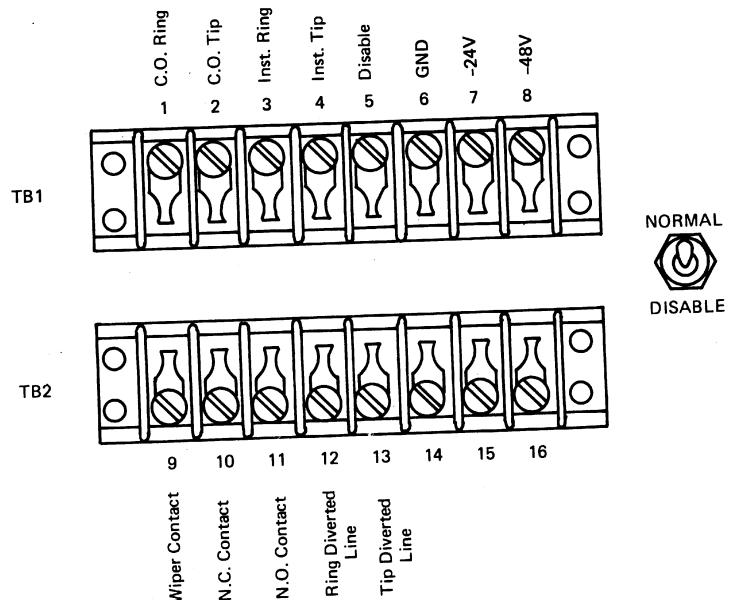
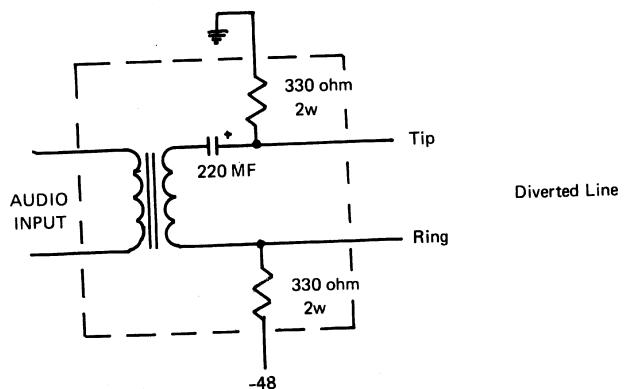

FIGURE 1 – TR-400/TRB-4 INSTALLATION CONNECTIONS
FIGURE 1A – DIVERTED LINE CIRCUIT CONFIGURATION
Step 5. Introduce power (-24V or -48V) C.O. lines, instrument lines, and remote disable (if appropriate) through grommet provided. Make connections as shown in Figure 1.
Step 5. Introduce power (-24V or -48V), C.O. Tip and Ring leads, instrument Tip and Ring leads, diverted line Tip and Ring leads, and remote disable leads (if appropriate) through grommet provided. Make connections shown in Figure 1. The audio input from the diverted line must be superimposed on a -48VDC line (see Figure 1A for a typical circuit configuration).
Step 6. If recorder start control is desired, wire TB2 pins 9, 10 and 11 of Figure 1 as required.
terminals for recorder start facility. See Figures 1 and 3.